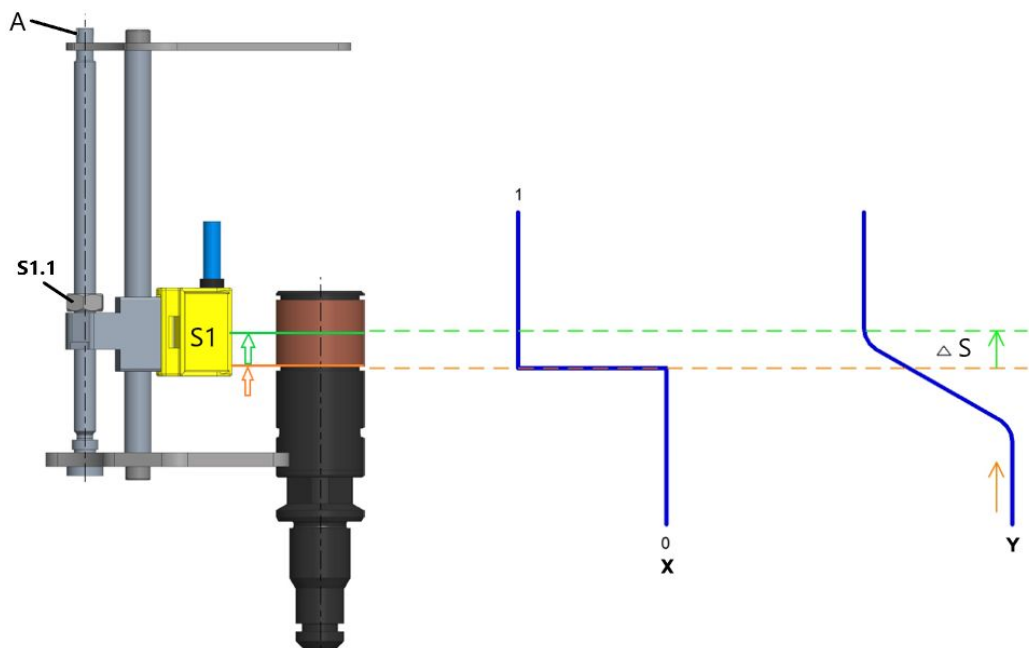

Fig.40: X = signal curve sensor / Y = current course curve (LED brightness)
3. Move sensor S2 into the detection range (3) of the target by turning it to the right (clockwise) until the yellow LED B starts to light up slightly (orange line in Fig. 40).
4. To adjust tolerance depending on the valve type from the beginning of LED B illumination, complete the necessary spindle rotation by turning to the right (clockwise) in accordance with Table 1 (green line in Fig. 40).